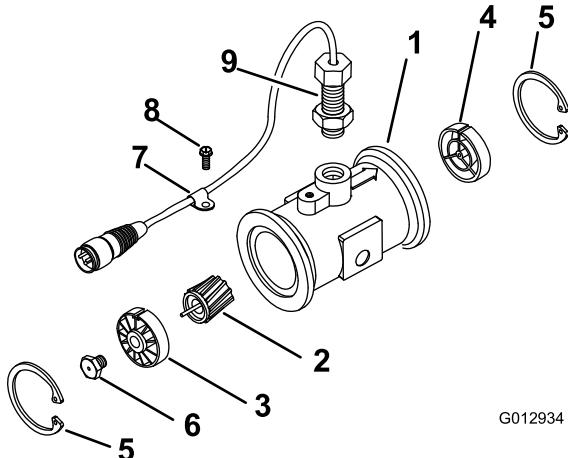

Figure 96
3. Remove the retainer ring on the upstream side (Figure 96).